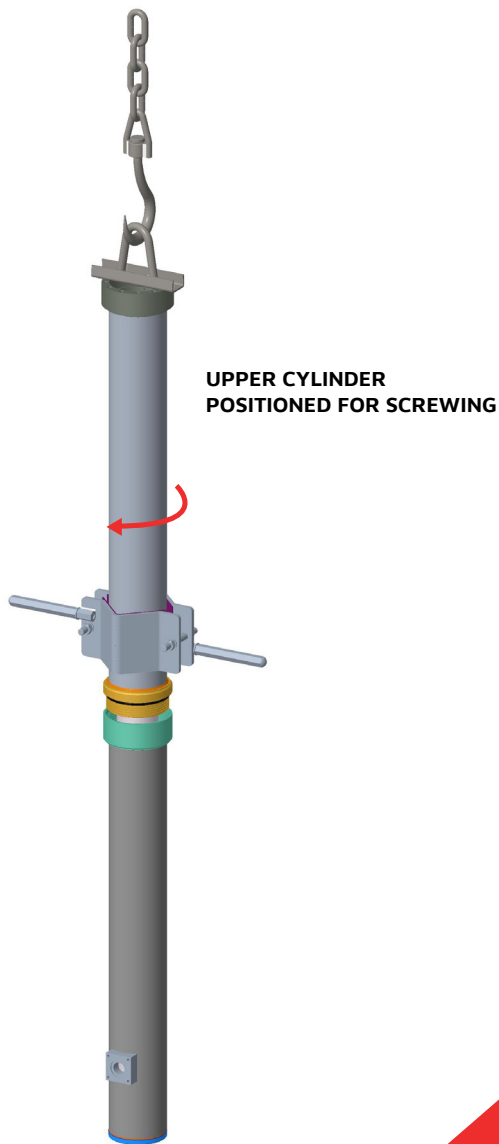

Fig 12
11. Slide the cylinder onto the piston rod carefully, tightening the whole unit. Remove the transport hook. **(Fig 12)**